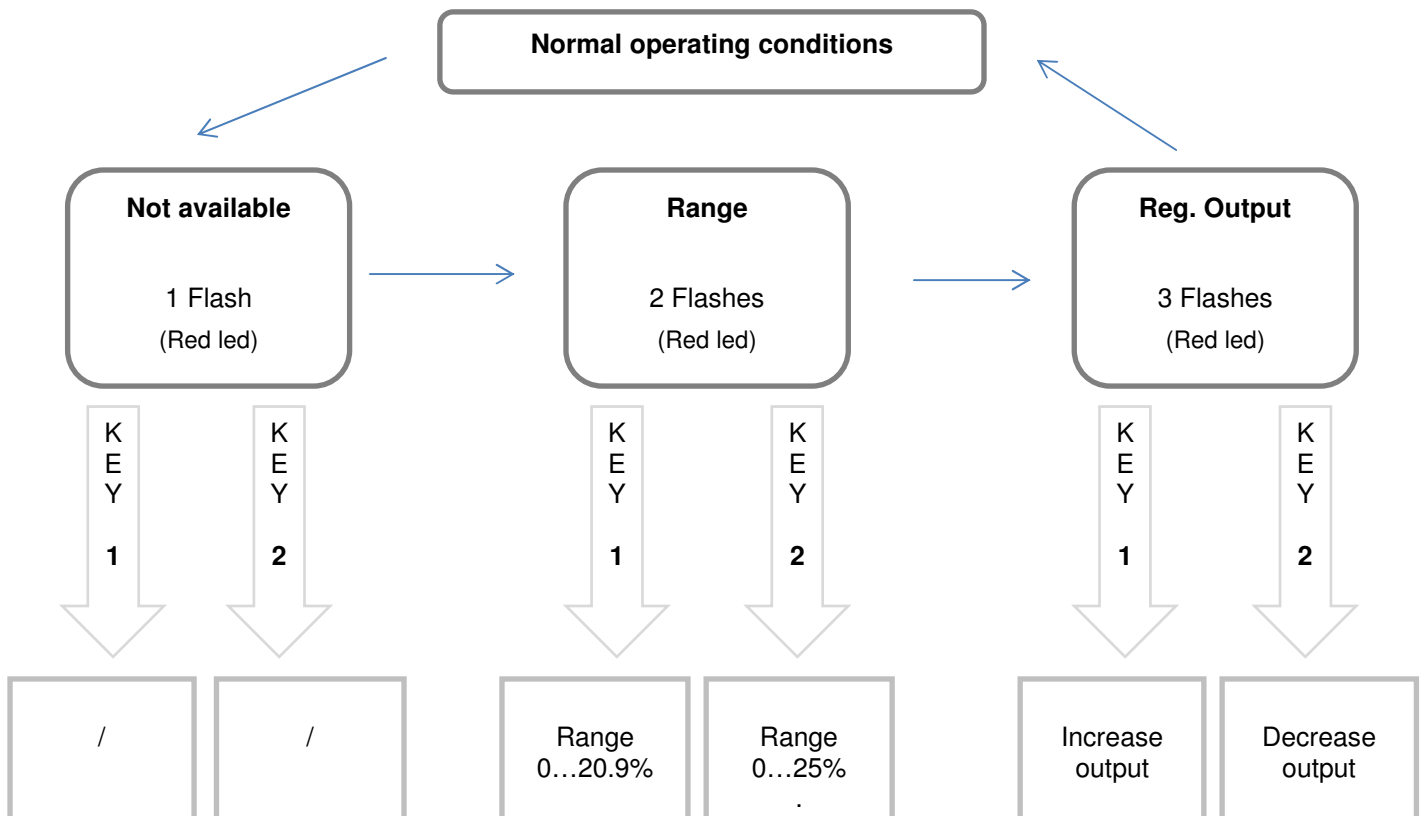

Figure 4
- Correct the output value operating on the calibration trimmer (see fig. 4, pag 8) up to full scale set 20.9 %O₂ or 25 %O₂ (see Cap. 5.2)